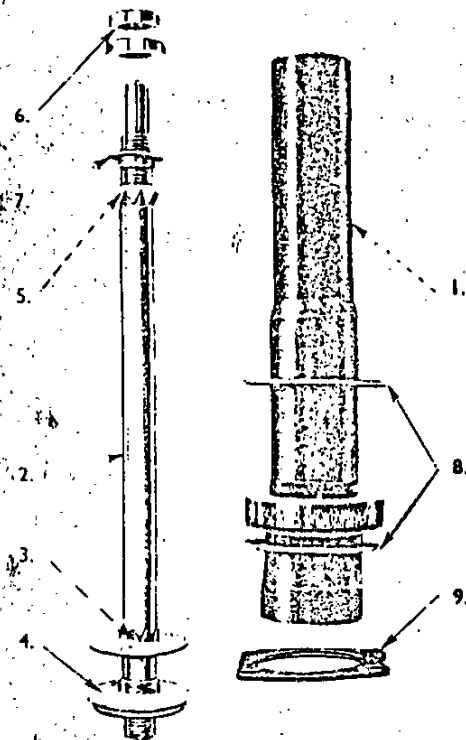

Fig. 5 Bushing Conductor
- Fig. 5 Expanded view of circuit-breaker bushings